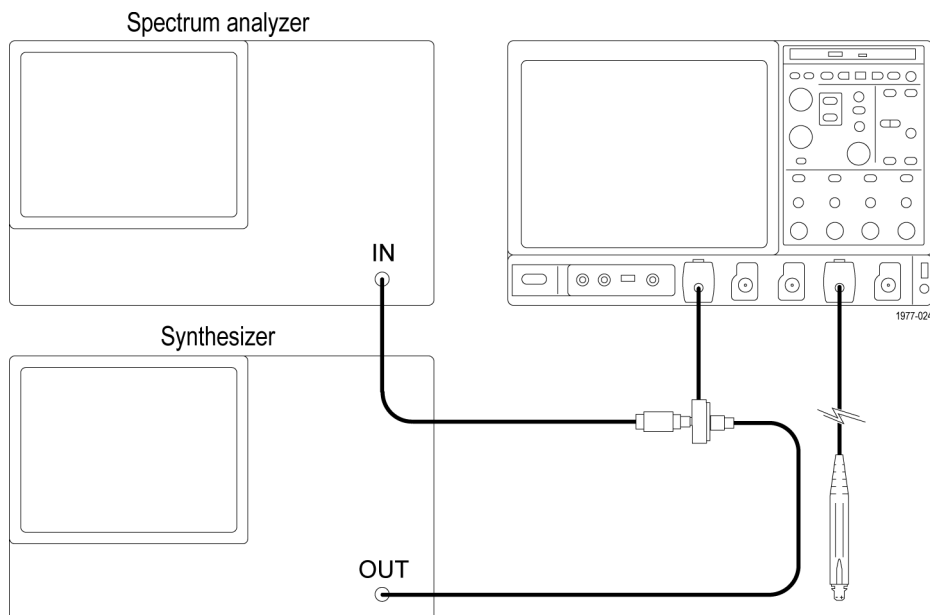

Figure 21: Alternate Bandwidth and CMRR test setup
1. Connect the equipment as shown. (See Figure 21 on page 38.) This setup is identical to the network analyzer setup in the main procedure, except that the synthesizer and spectrum analyzer replace the network analyzer. (See Figure 15 on page 24.)